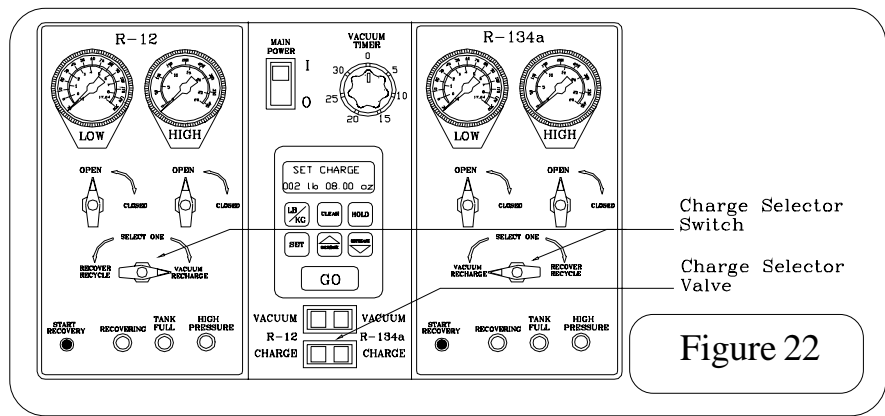

Figure 22
9. Turn selector valve on the control panel to VACUUM/RECHARGE (on the corresponding side). (Refer to Figure 22)
11. Depress the charge selector switch on the control panel to either R-12 or R-134a, (Refer to Figure 22).